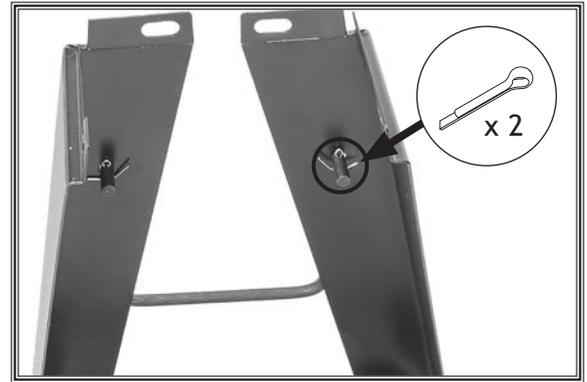

Figure 10. Cotter pins installed in handle.
9. On opposite side of stand, insert handle into holes and secure with (2) cotter pins (see **Figure 10**).